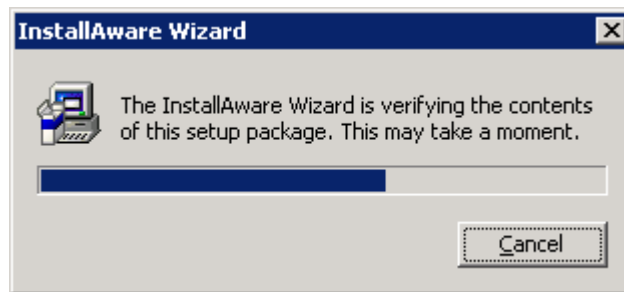

Figure 83 - InstallAware Wizard Verification Window
2. If the MatrikonOPC InstallAware screen does not automatically appear, double-click the installation .exe file. The **MatrikonOPC Server – InstallAware Wizard** verifies its contents (Figure 83).